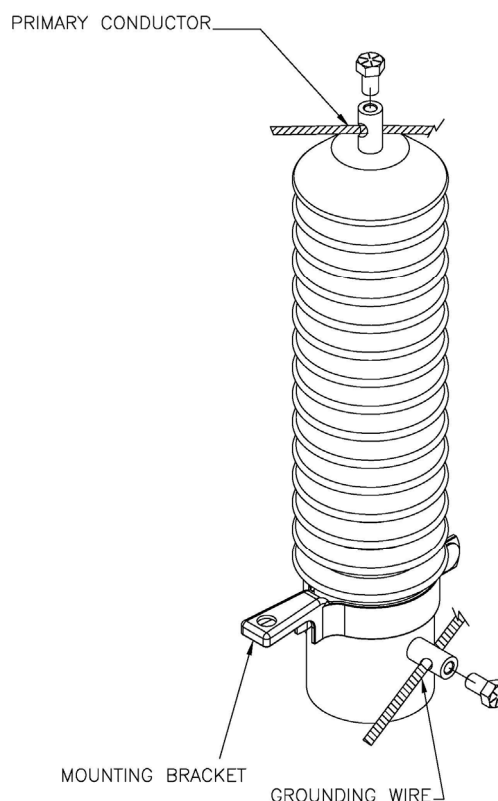

Figure 1: SVMI Sensor (standard mounting bracket shown)
- The standard mounting bracket as shown in Figure 1 should be used when making a final onsite installation.